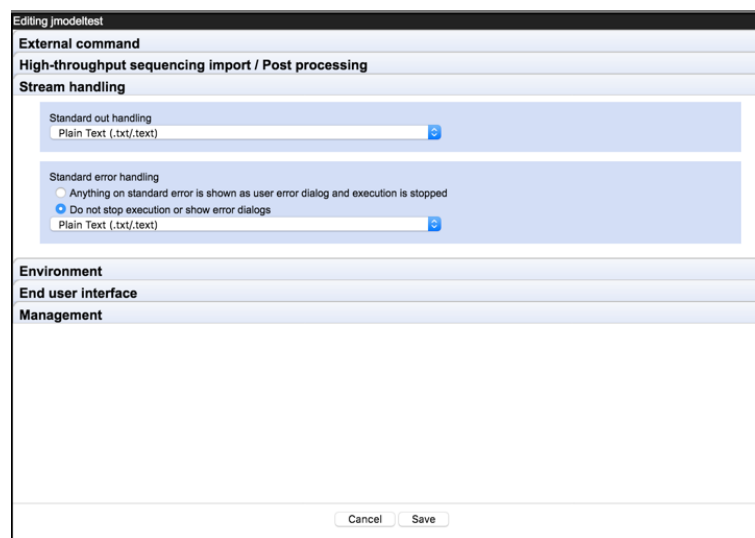

Figure 16.56: Standard error and standard out from the command line application can be collected and imported so it can be reviewed.
- Configure the external application to import standard out and/or standard error as text. This makes it possible to check error messages posted by the external application. See figure 16.56. For containerized external applications, messages from docker are posted to standard error, so collecting standard error for such applications is particularly recommended.